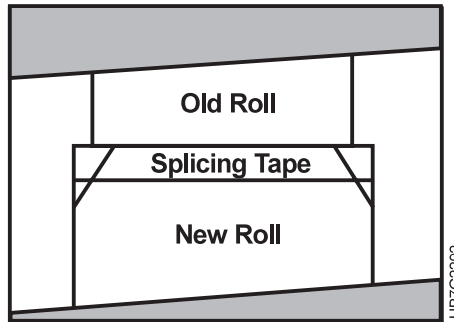

Figure 213. Width of New Roll is Larger than Old Roll
- If the width of the new roll is *larger* than the width of the old roll, trim the corners of *only* the new roll, as shown in Figure 213 on page 289.